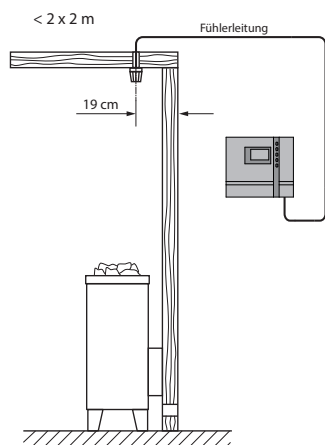
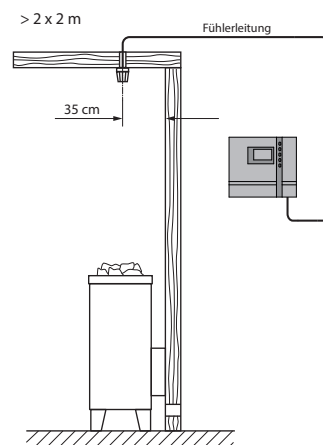

Fig. 7
Fig. 8
1. Mount the oven sensor in cabins up to $2 \times 2 \text{ m}$ according to Fig. 7 and 9, in larger cabins according to Fig. 8 and 9.